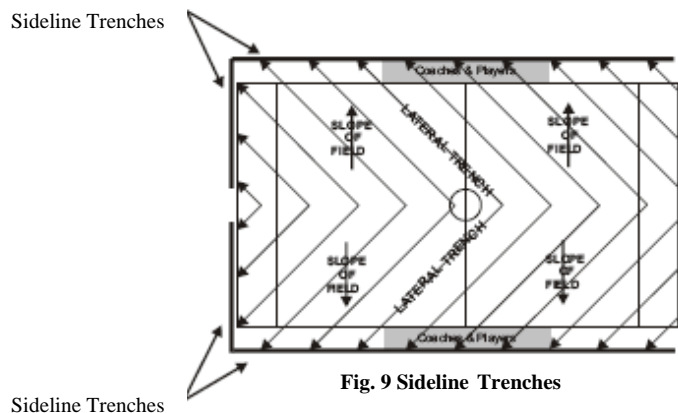

Fig. 9 Sideline Trenches
3. Place sideline trenches in such a way as to connect all lateral trenches on both sides of the field (See Fig. 9)